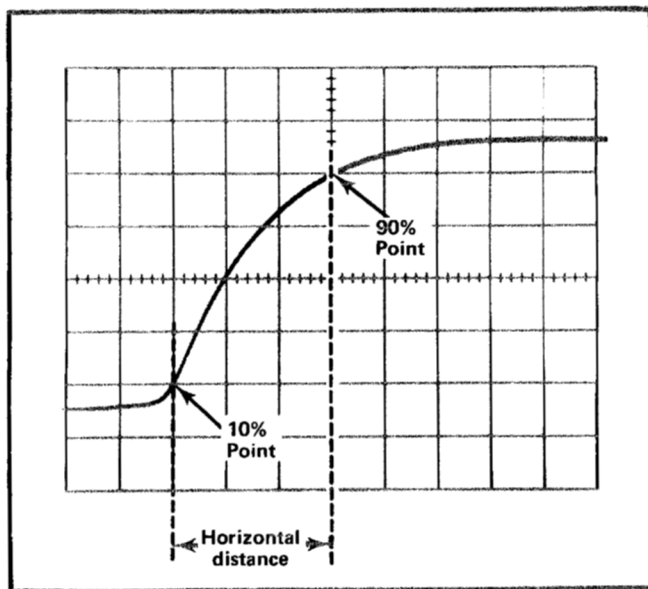

Fig. 2-11. Measuring risetime.
8. Adjust the horizontal POSITION control to move the 10% point of the waveform to the first vertical line of the graticule. For example, with a five-division display as shown in Fig. 2-11, the 10% point is 0.5 division up from the start of the rising portion.
Example. Assume that the horizontal distance between the 10% and 90% points is four divisions (see Fig. 2-11) and the TIME/DIV switch is set to 1 μs with the MAG switch set to X10. Applying the time duration formula to risetime: